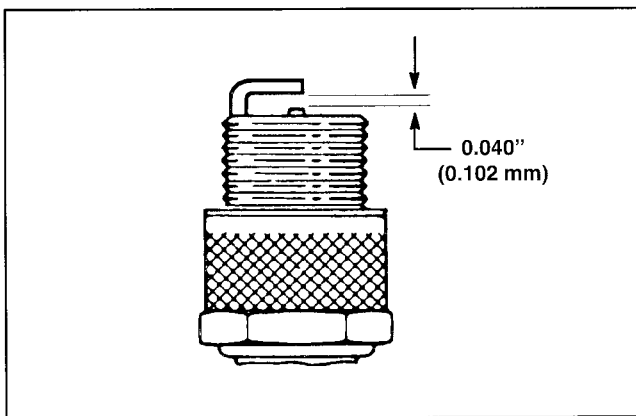

Figure 21
4. Set air gap between center and side of electrodes at 0.040 of an inch (0.102 mm) (Fig. 21). Install correctly gapped spark plug w/gasket seal, and tighten plug to 10–15 ft.-lb. (14–20 N.m). If torque wrench is not used, tighten plug firmly.